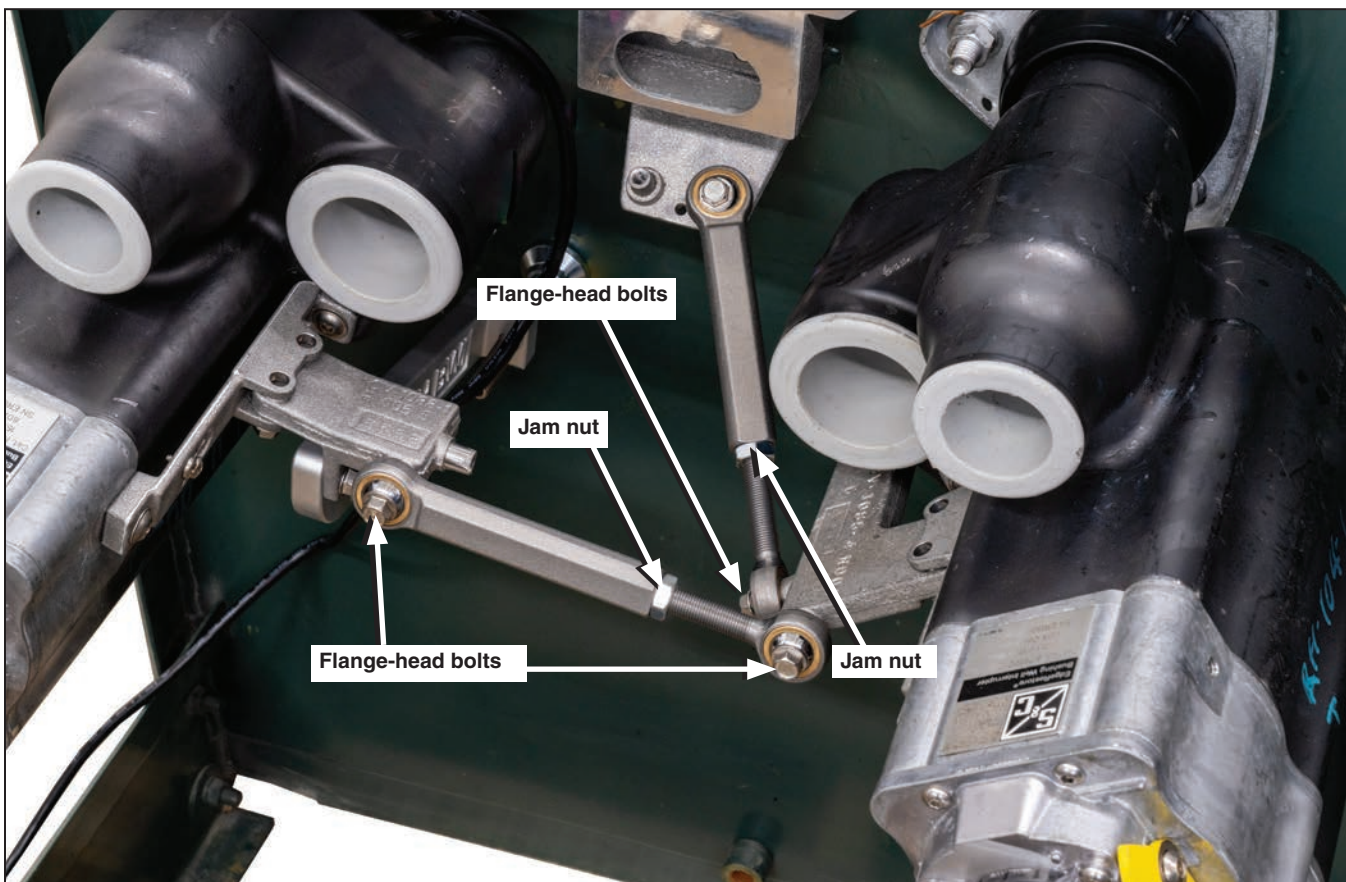

Figure 13. Loosen all bolts and jam nuts.
- STEP 1.** Loosen the two jam nuts using the $\frac{9}{16}$ -inch combination wrench as shown in Figure 13.
- STEP 2.** Loosen and remove the three $\frac{1}{4}$ -20 $\times$ $\frac{5}{8}$ -inch flange-head bolts shown in Figure 13. To avoid losing the flange-head bolts, they can be rethreaded into the bosses.